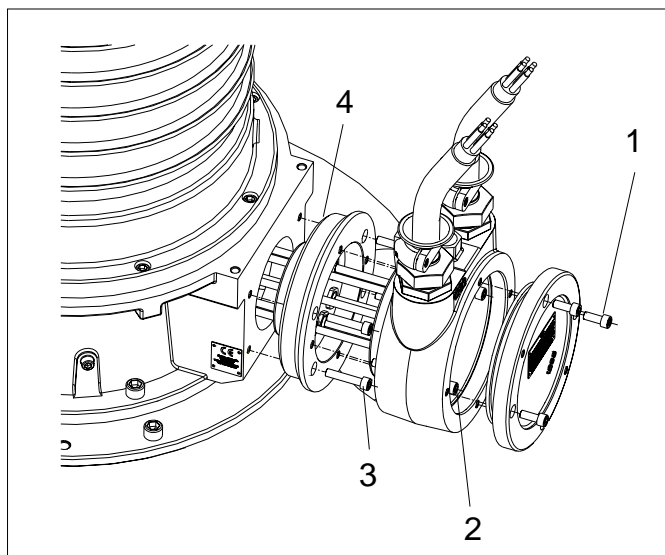

Fig. 7.14
Place the pump in a vertical position and remove the 4 hexagon socket screws (1) (Fig.7.14) from the cover of the cable entry box (2) and remove the cover. Remove the 4 hexagon socket screws (3) from the flange.